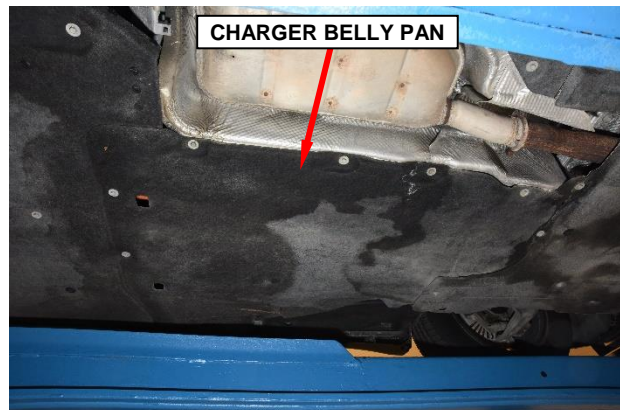

Figure 20 – Charger Belly Pan
3. Remove the fasteners then remove the charger belly pan (Figure 20).
29. Install the charger belly pan then install the fasteners securing the charger belly pan (Figure 20).